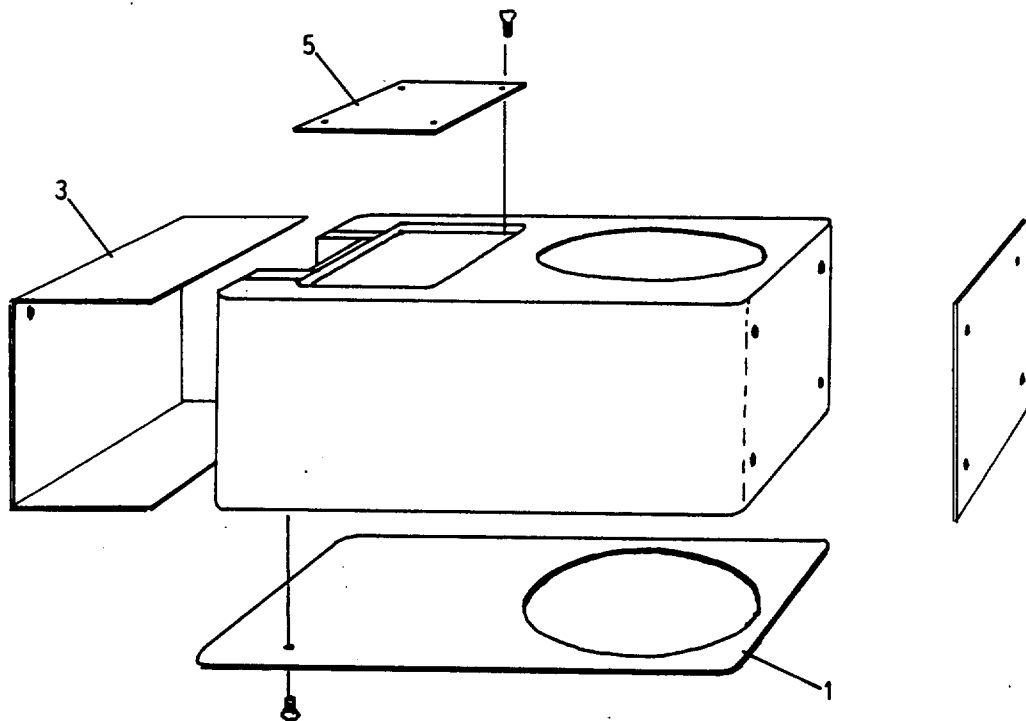

Fig. 3
- Open cover 1 or 5 (see fig 3) and grease the gear. Use a thin brush so that the grease reaches down in the cogs. Rotate the outgoing axis so that the whole gear is reached.
- Open cover 3 (see fig 3). Refill new grease.